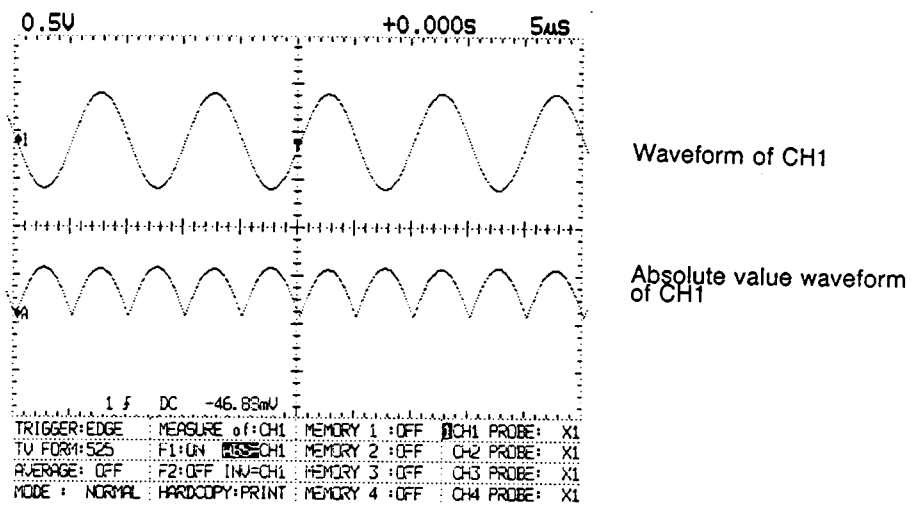

**Fig. 6-26 Example of inverted waveform screen**
- Then, the menu disappears and the screen shown in Fig. 6-26 is displayed.